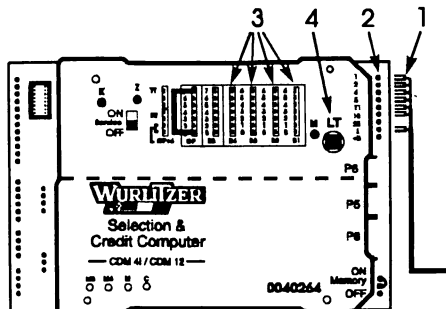
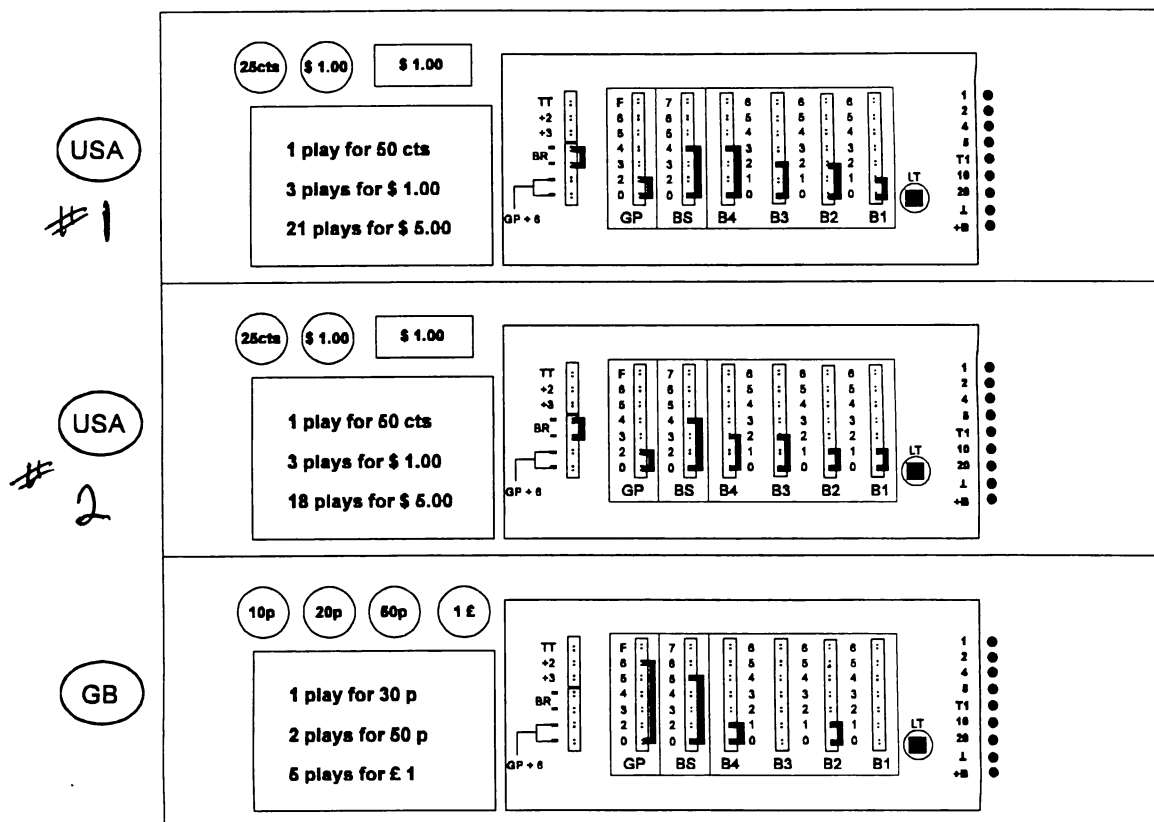
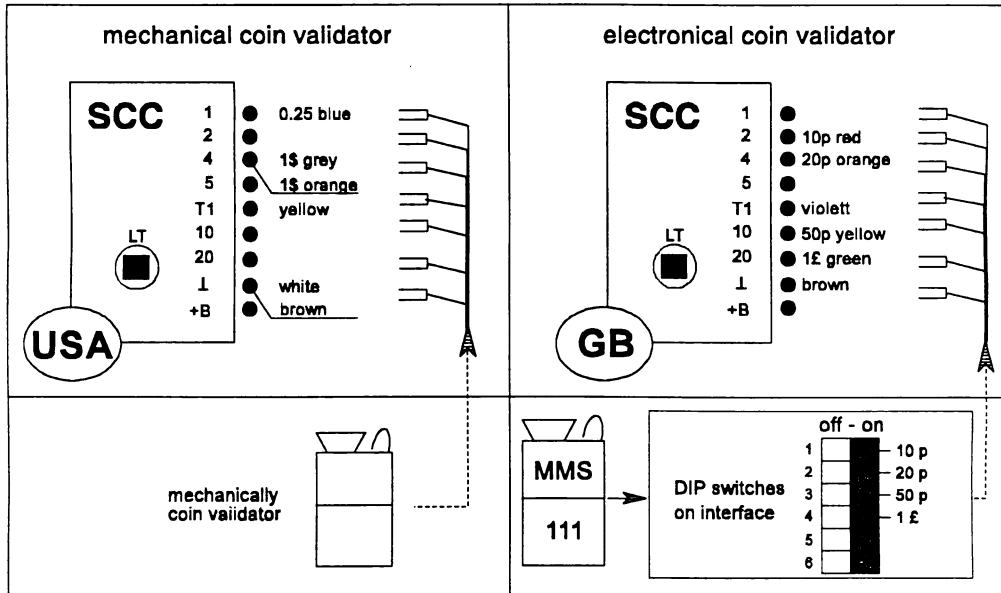

Fig. 7
Fig. 8
Fig. 9
- Coin output plugs (Fig. 7, Pos. 1) should be set as shown in Fig. 9 or on an separate attached instruction by connecting to the pin row (Fig. 7, Pos. 2) on the S&CC unit. Pay attention to wiring colours.
3. Set the attached jumpers in B1 to B4, GP, BS (Fig. 7, Pos. 3) according to Fig. 8.
4. Press "LT" button (Fig. 7, Pos. 4) to accept the new bonus setting.